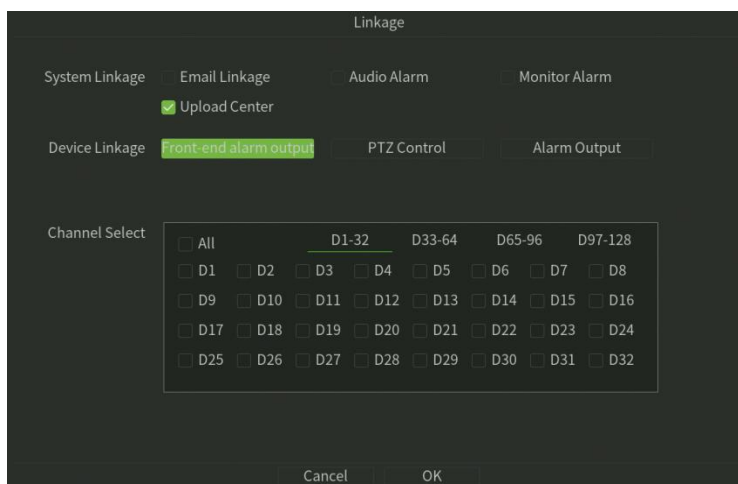

Figure 6.14 Linkage
4. Click Linkage button, Setup the linkage operation of the function, as shown in figure 6.14.